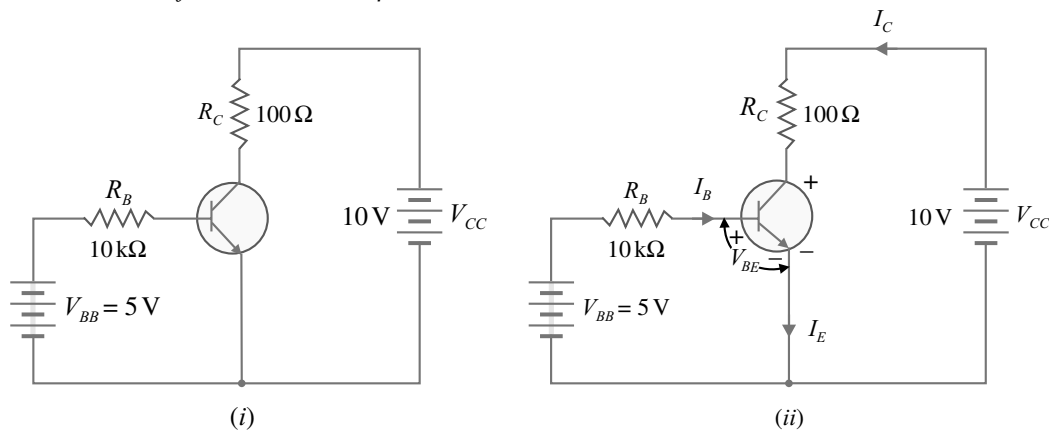

Fig. 6.26
**Example 6.20.** Determine  $V_{CB}$  in the transistor \*\*circuit shown in Fig. 6.26 (i). The transistor is of silicon and has  $\beta = 150$ .
**Solution.** Fig. 6.26 (i) shows the transistor circuit while Fig. 6.26 (ii) shows the various currents and voltages along with polarities.